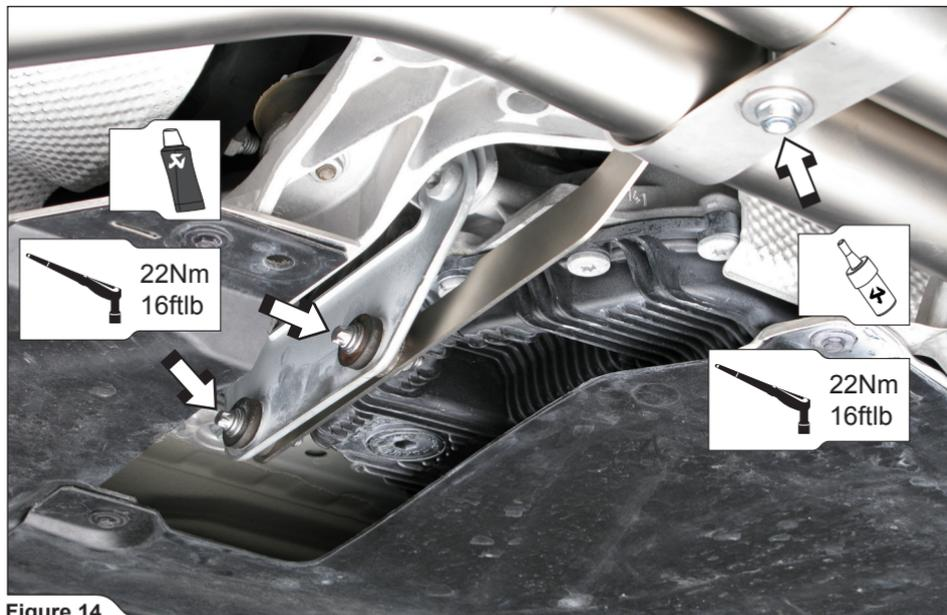

Figure 14
2. **For Evolution:** attach the Akrapovič front pipes bracket onto the chassis using stock bolts and nuts. Assemble the Akrapovič clamp onto the bracket using Akr. M8x75 bolt and washer (Figure 14).